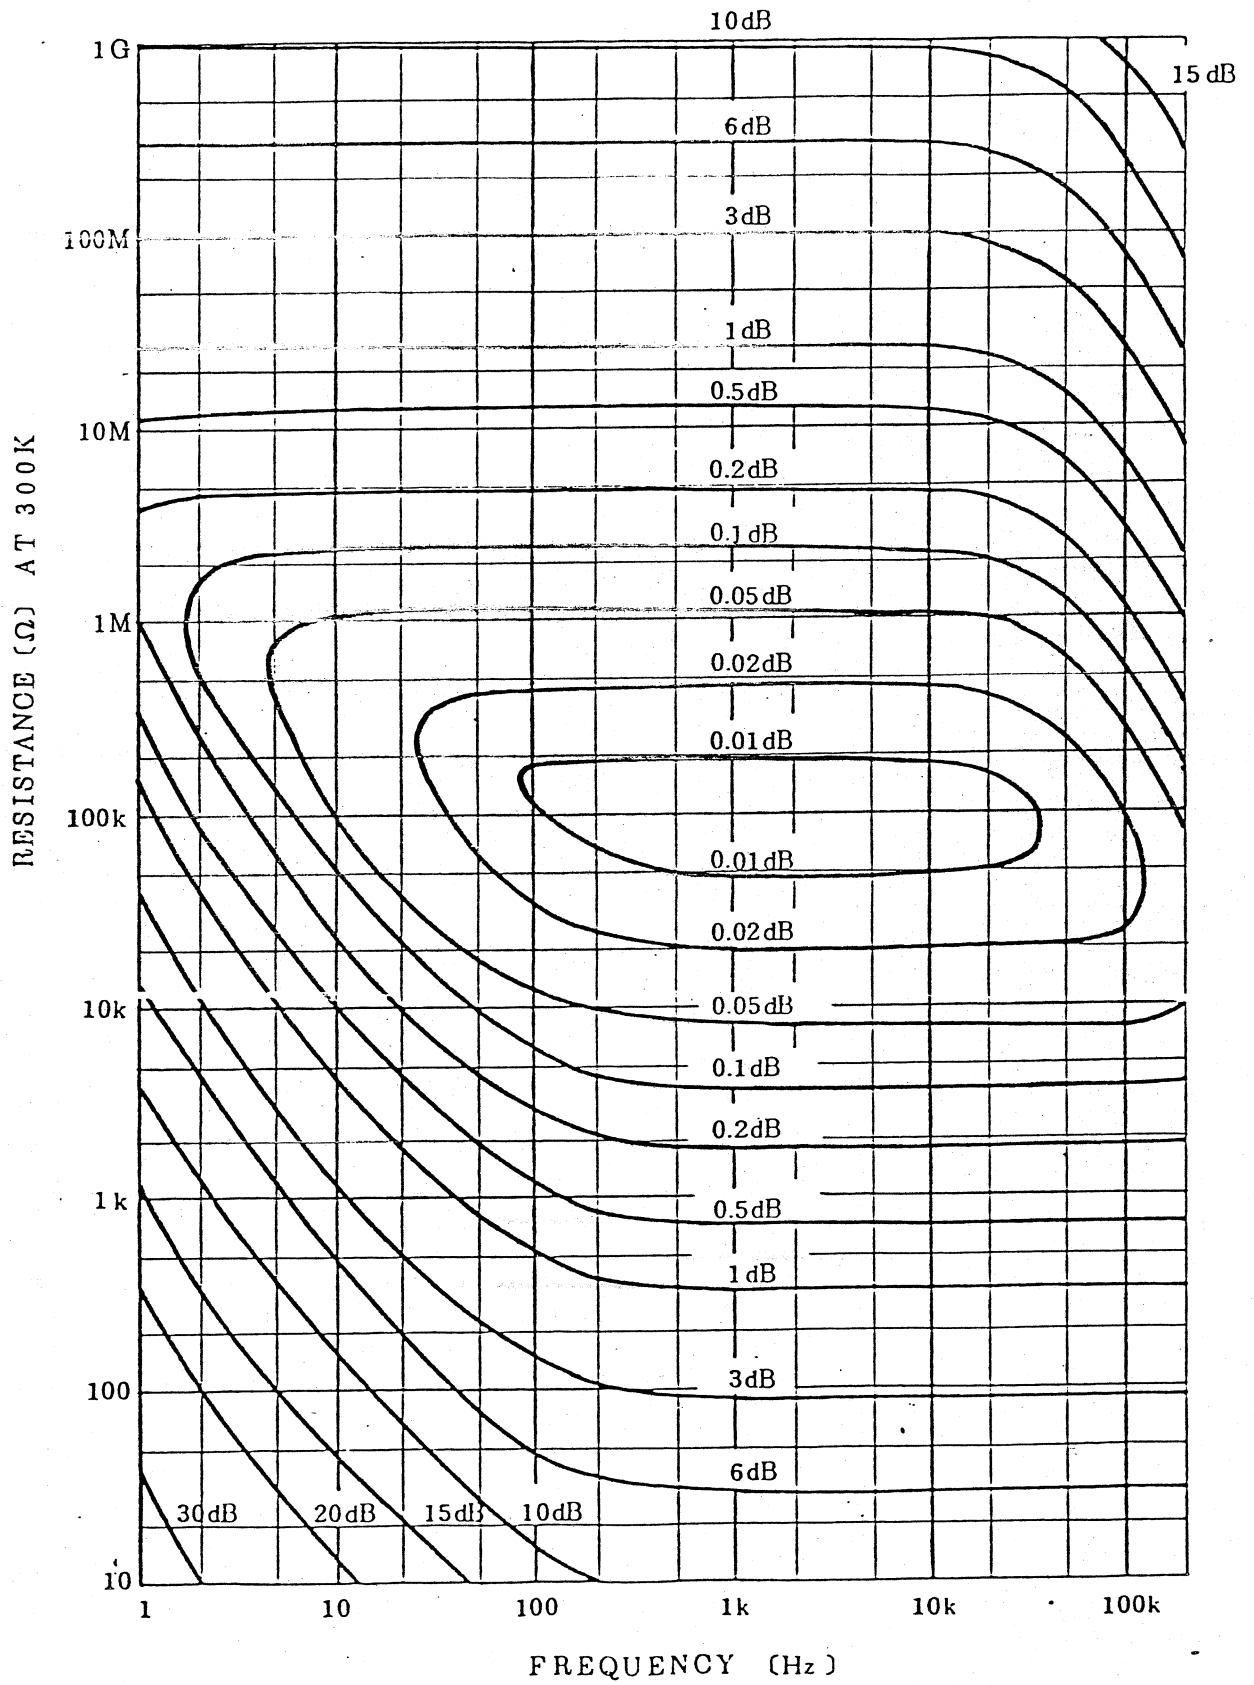

Fig. 6-4 Noise figure (typical)
Using the noise figure as a parameter, and expressing the frequency along the horizontal axis and the signal source resistance on the vertical axis, we obtain a typical plot (schmoo plot) as shown in Fig. 6-4.
- Fig. 6-4 Noise figure (typical)